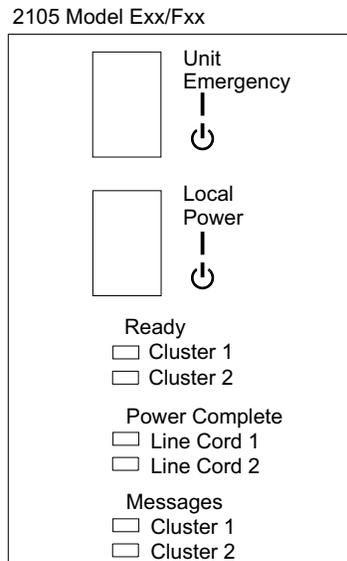

Figure 244. 2105 Model Exx/Fxx Operator Panel Locations (S008814m)
- ___ 7. Verify that the Ready indicators on the operator panel for Cluster 1 and Cluster 2 [Figure 244] are on.